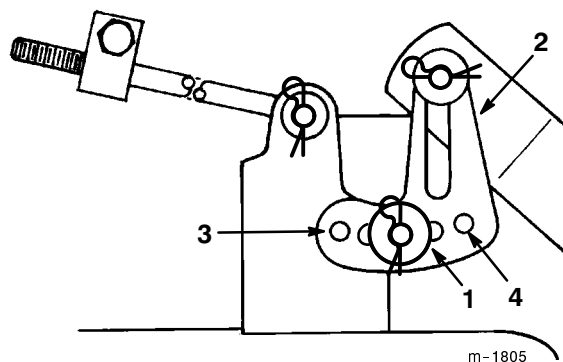

Figure 45
5. Remove the hairpin cotter and washer from the leveling bracket (Fig. 45). To level the blade(s), reposition the leveling bracket in a different hole and install the washer and hairpin cotter. (Fig. 45). A front hole lowers the blade height and a rear hole raises its height. Repeat this procedure on the opposite side of the mower.